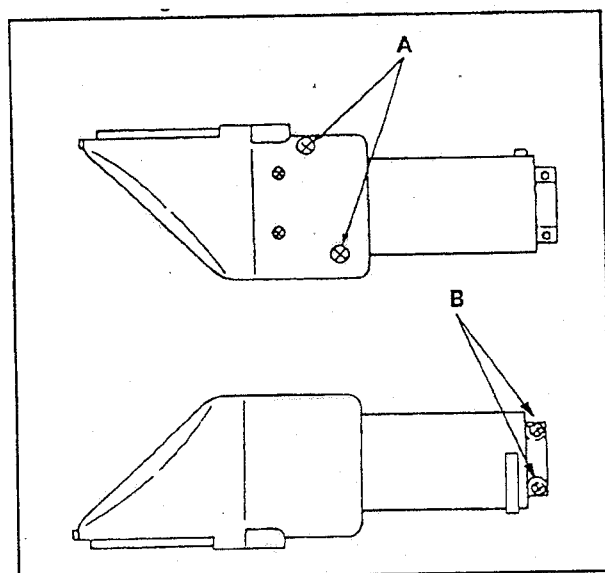

Figure F3.
- 6) Unscrew the screws (A) and (B) as shown in Figure F3.